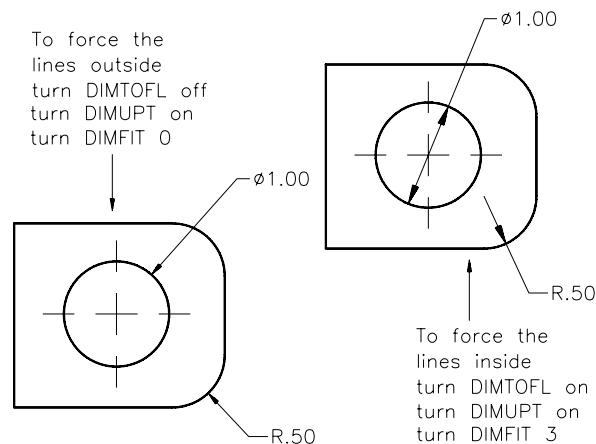

Figure 22-42 *Diameter should be preceded by the diameter symbol*
16. When dimensioning a circle, the diameter should be preceded by the diameter symbol (Figure 22-42). AutoCAD automatically puts the diameter symbol in front of the diameter value. However, if you override the default diameter value, you can use %%c followed by the value of the diameter (%%c1.25) to put the diameter symbol in front of the diameter dimension.